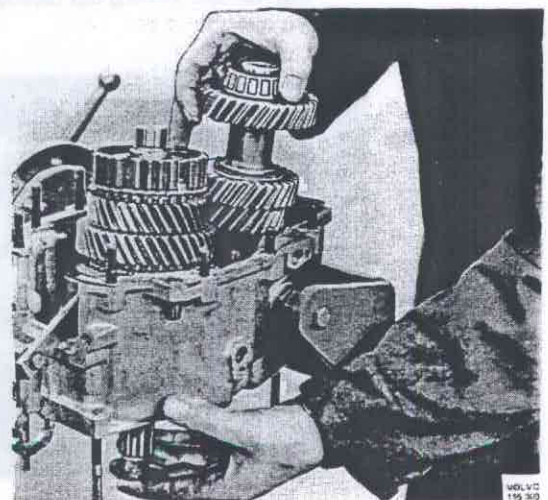

Fig. 43-63. Removing intermediate shaft
23. Lift the output shaft to the one side and remove the intermediate shaft, Fig. 43-63.